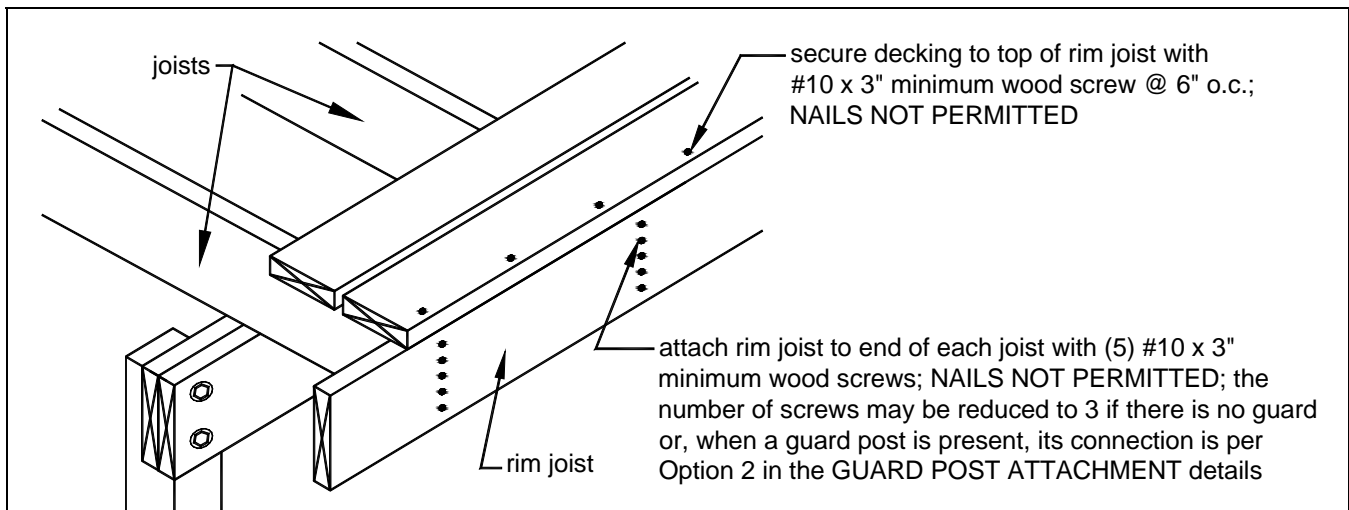
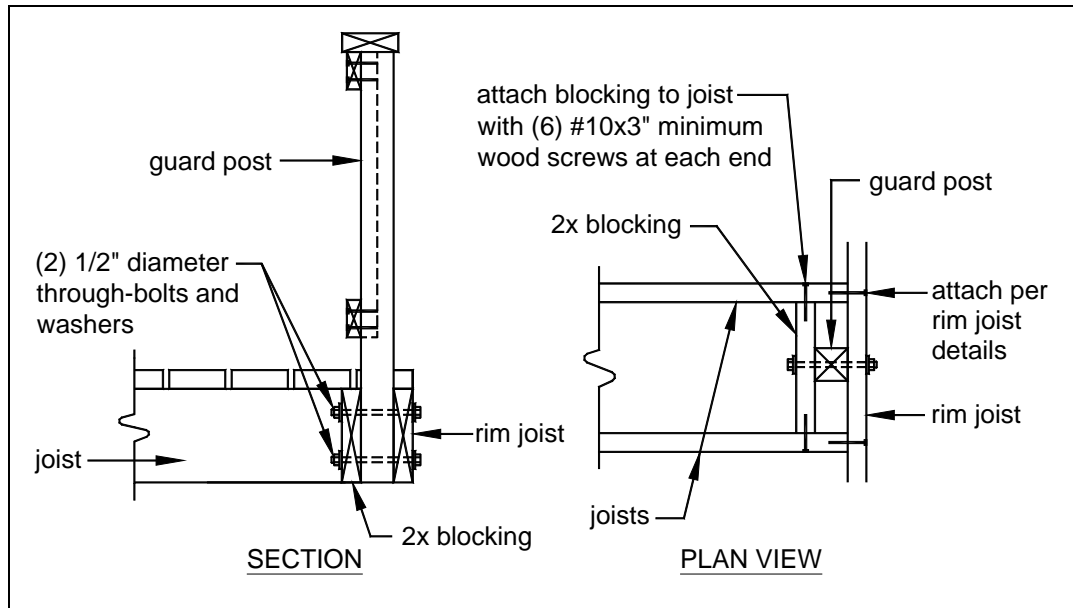
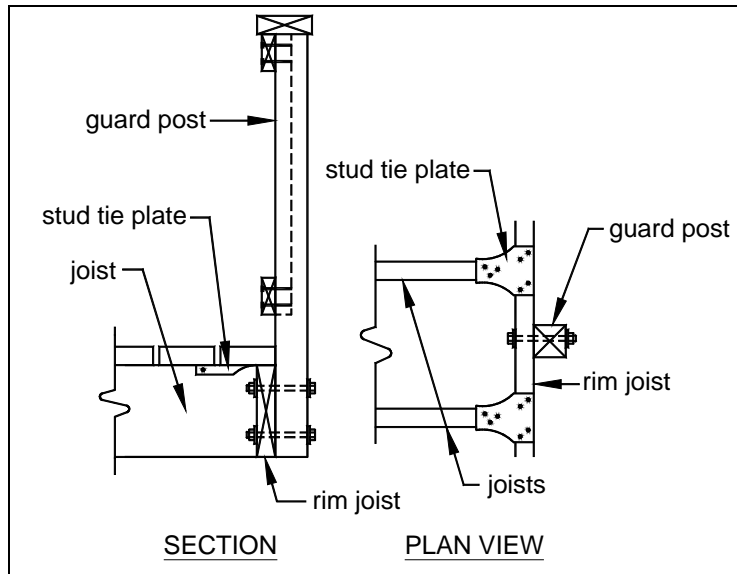

FIGURE 11: RIM JOIST CONNECTION DETAILS
FIGURE 29: GUARD POST TO RIM JOIST DETAIL, OPTION 1
FIGURE 31: GUARD POST TO RIM JOIST DETAIL, OPTION 3
All decking material shall be composed of 2x6 or $\frac{5}{4}$ ("five-quarter") board. Attach decking to each joist with a minimum of (2) 8d nails or (2) #8 screws. See FIGURE 11 for decking connection requirements at the rim joist. Decking may be placed from an angle perpendicular to the joists to an angle of 45 degrees to the joists.
Attach a continuous rim joist to the ends of joists as shown in FIGURE 11. Attach decking to the rim joist as shown in FIGURE 11. For more decking attachment requirements, see DECKING REQUIREMENTS on Sheet 2.
GUARD POST TO RIM JOIST: Use one of the options shown in FIGURE 29 through FIGURE 31 to attach a guard post to a rim joist. See FIGURE 11 for rim joist-to-deck joist and decking-to-rim joist attachment requirements.
OPTION 1: As shown in FIGURE 29, guard posts are attached to the inside face of the rim joists. To attach guard post to the outside of the rim joist, see OPTION 2 or OPTION 3.
OPTION 3: As shown in FIGURE 31, the rim joist must be fastened to deck joists with two 20 gage *stud tie plates* attached per the manufacturer's instructions with hot-dipped galvanized or stainless steel fasteners. Look for model number SP1 in a Zmax coating from Simpson Strong-Tie or model number SPT22 in a Triple Zinc coating from USP. Other stud tie plate models meeting the minimum requirements may also be used.